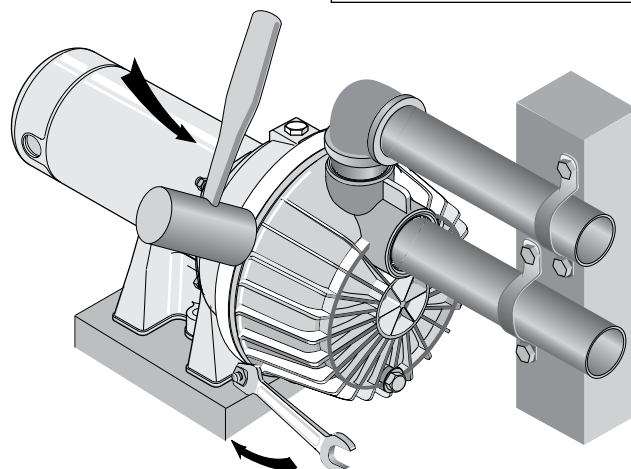

Figure 28 – Tap Clamp While Tightening
3. **BE SURE** inside of clamp is clean. Place clamp on pump halves; snug up. Alternately tighten screw and tap clamp with mallet to seat O-ring (see Figure 28).